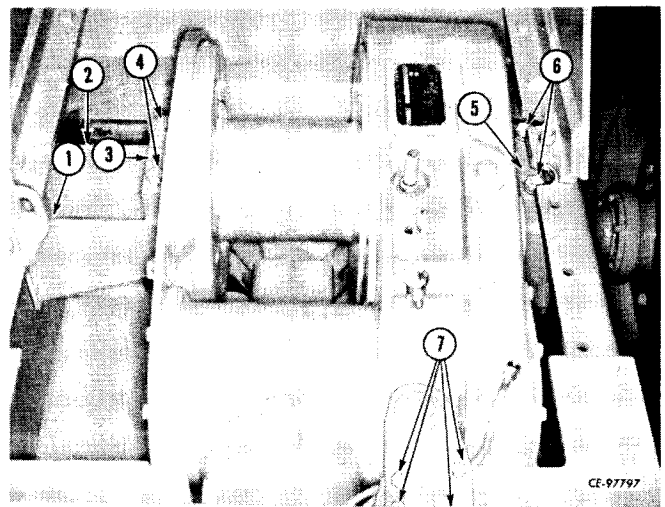

Figure 14-6
Remove cap screws (4, 6, Fig. 14-6), lock washers and pillow blocks (3, 5). Remove cap screws, lock washers and nuts (7) separating front mount from frame. Position a suitable sling and using a hoist, remove all slack.